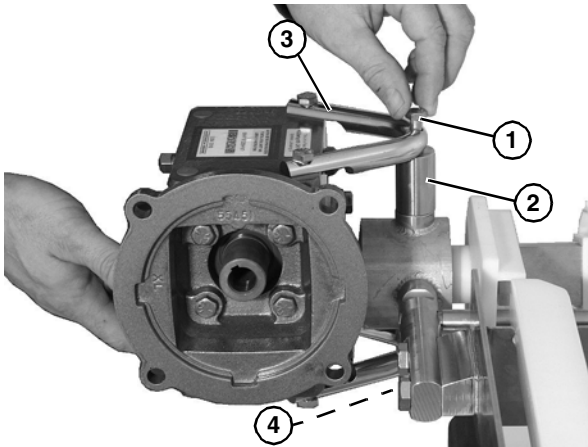

Figure 57
4. Remove top bolt (**Figure 57, item 1**) and spacer (**Figure 57, item 2**) holding the bracket (**Figure 57, item 3**) to the drive assembly.
5. Remove bottom bolt (**Figure 57, item 4**).